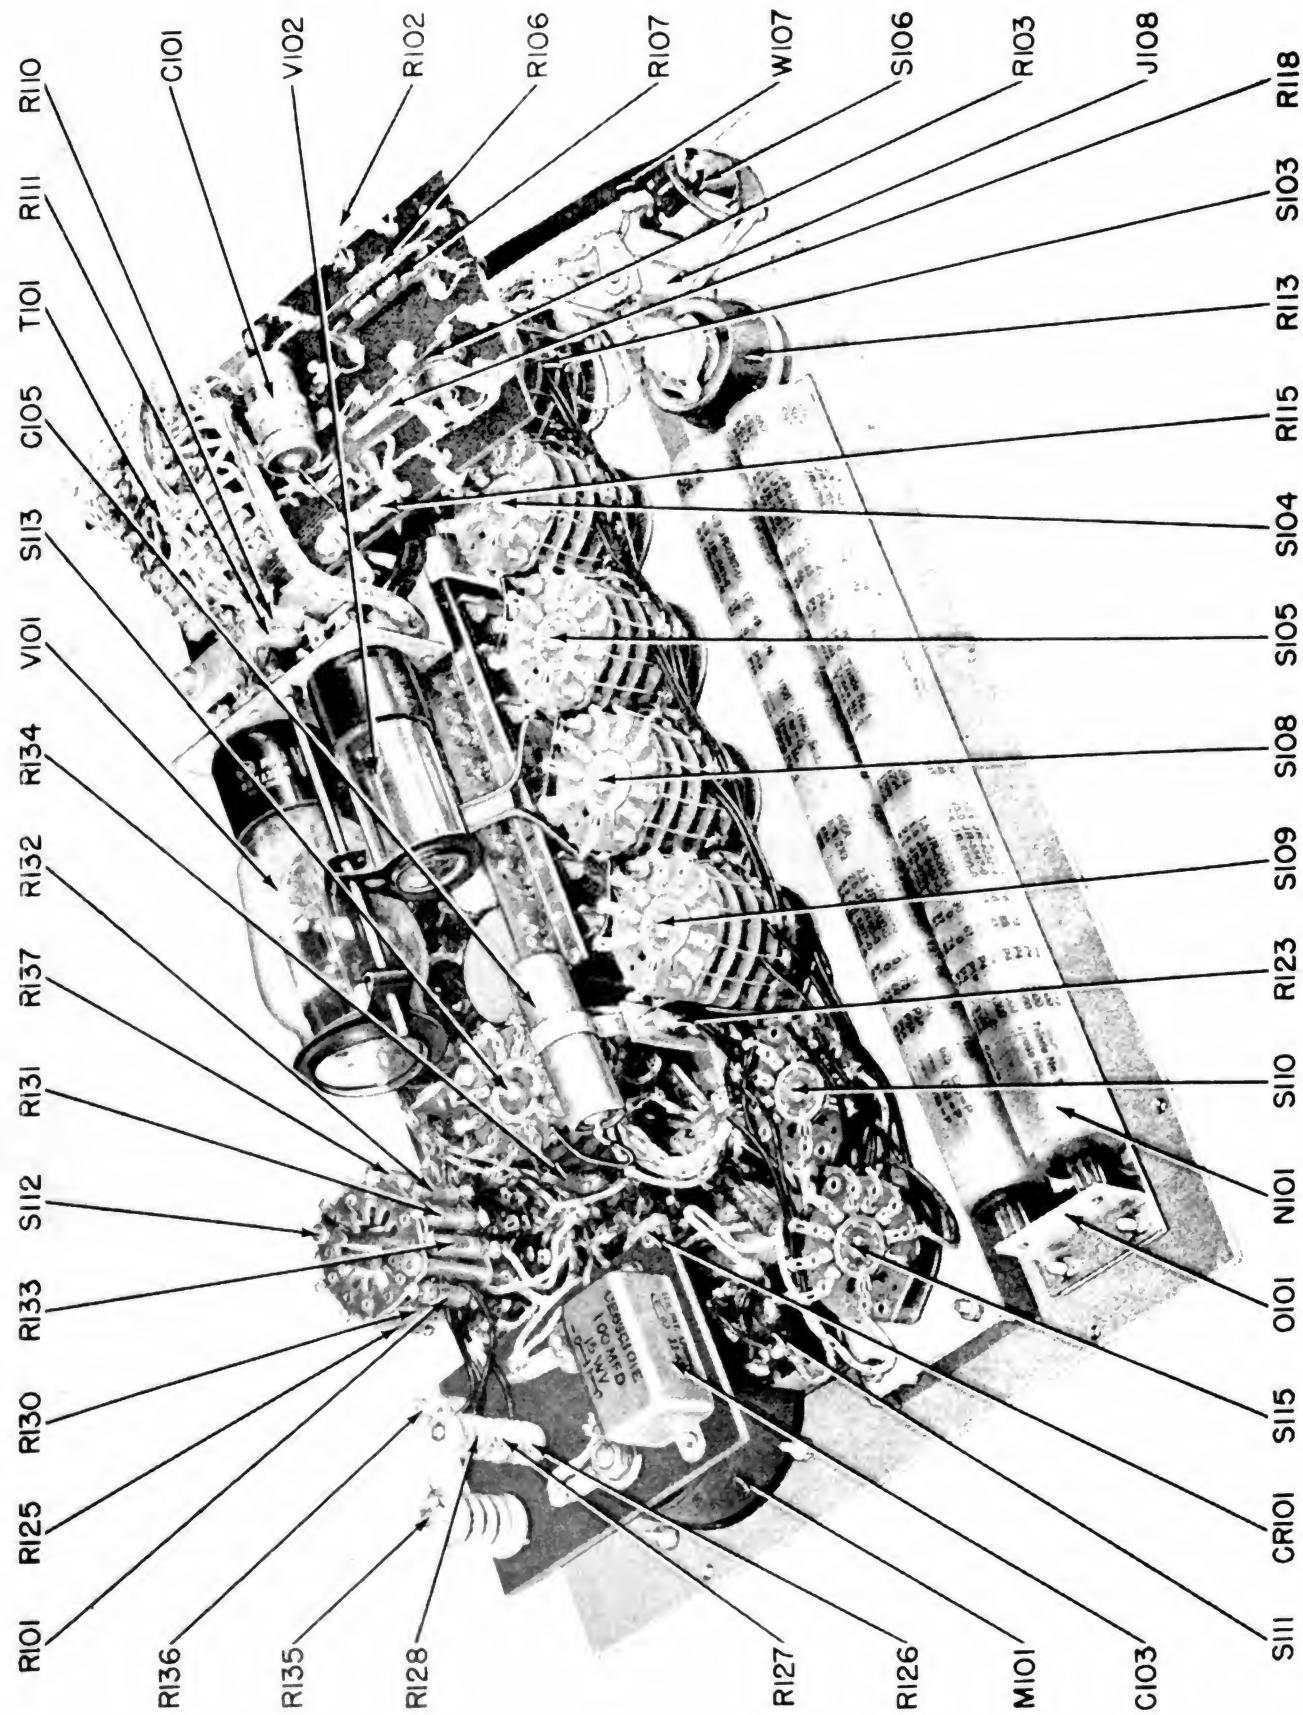
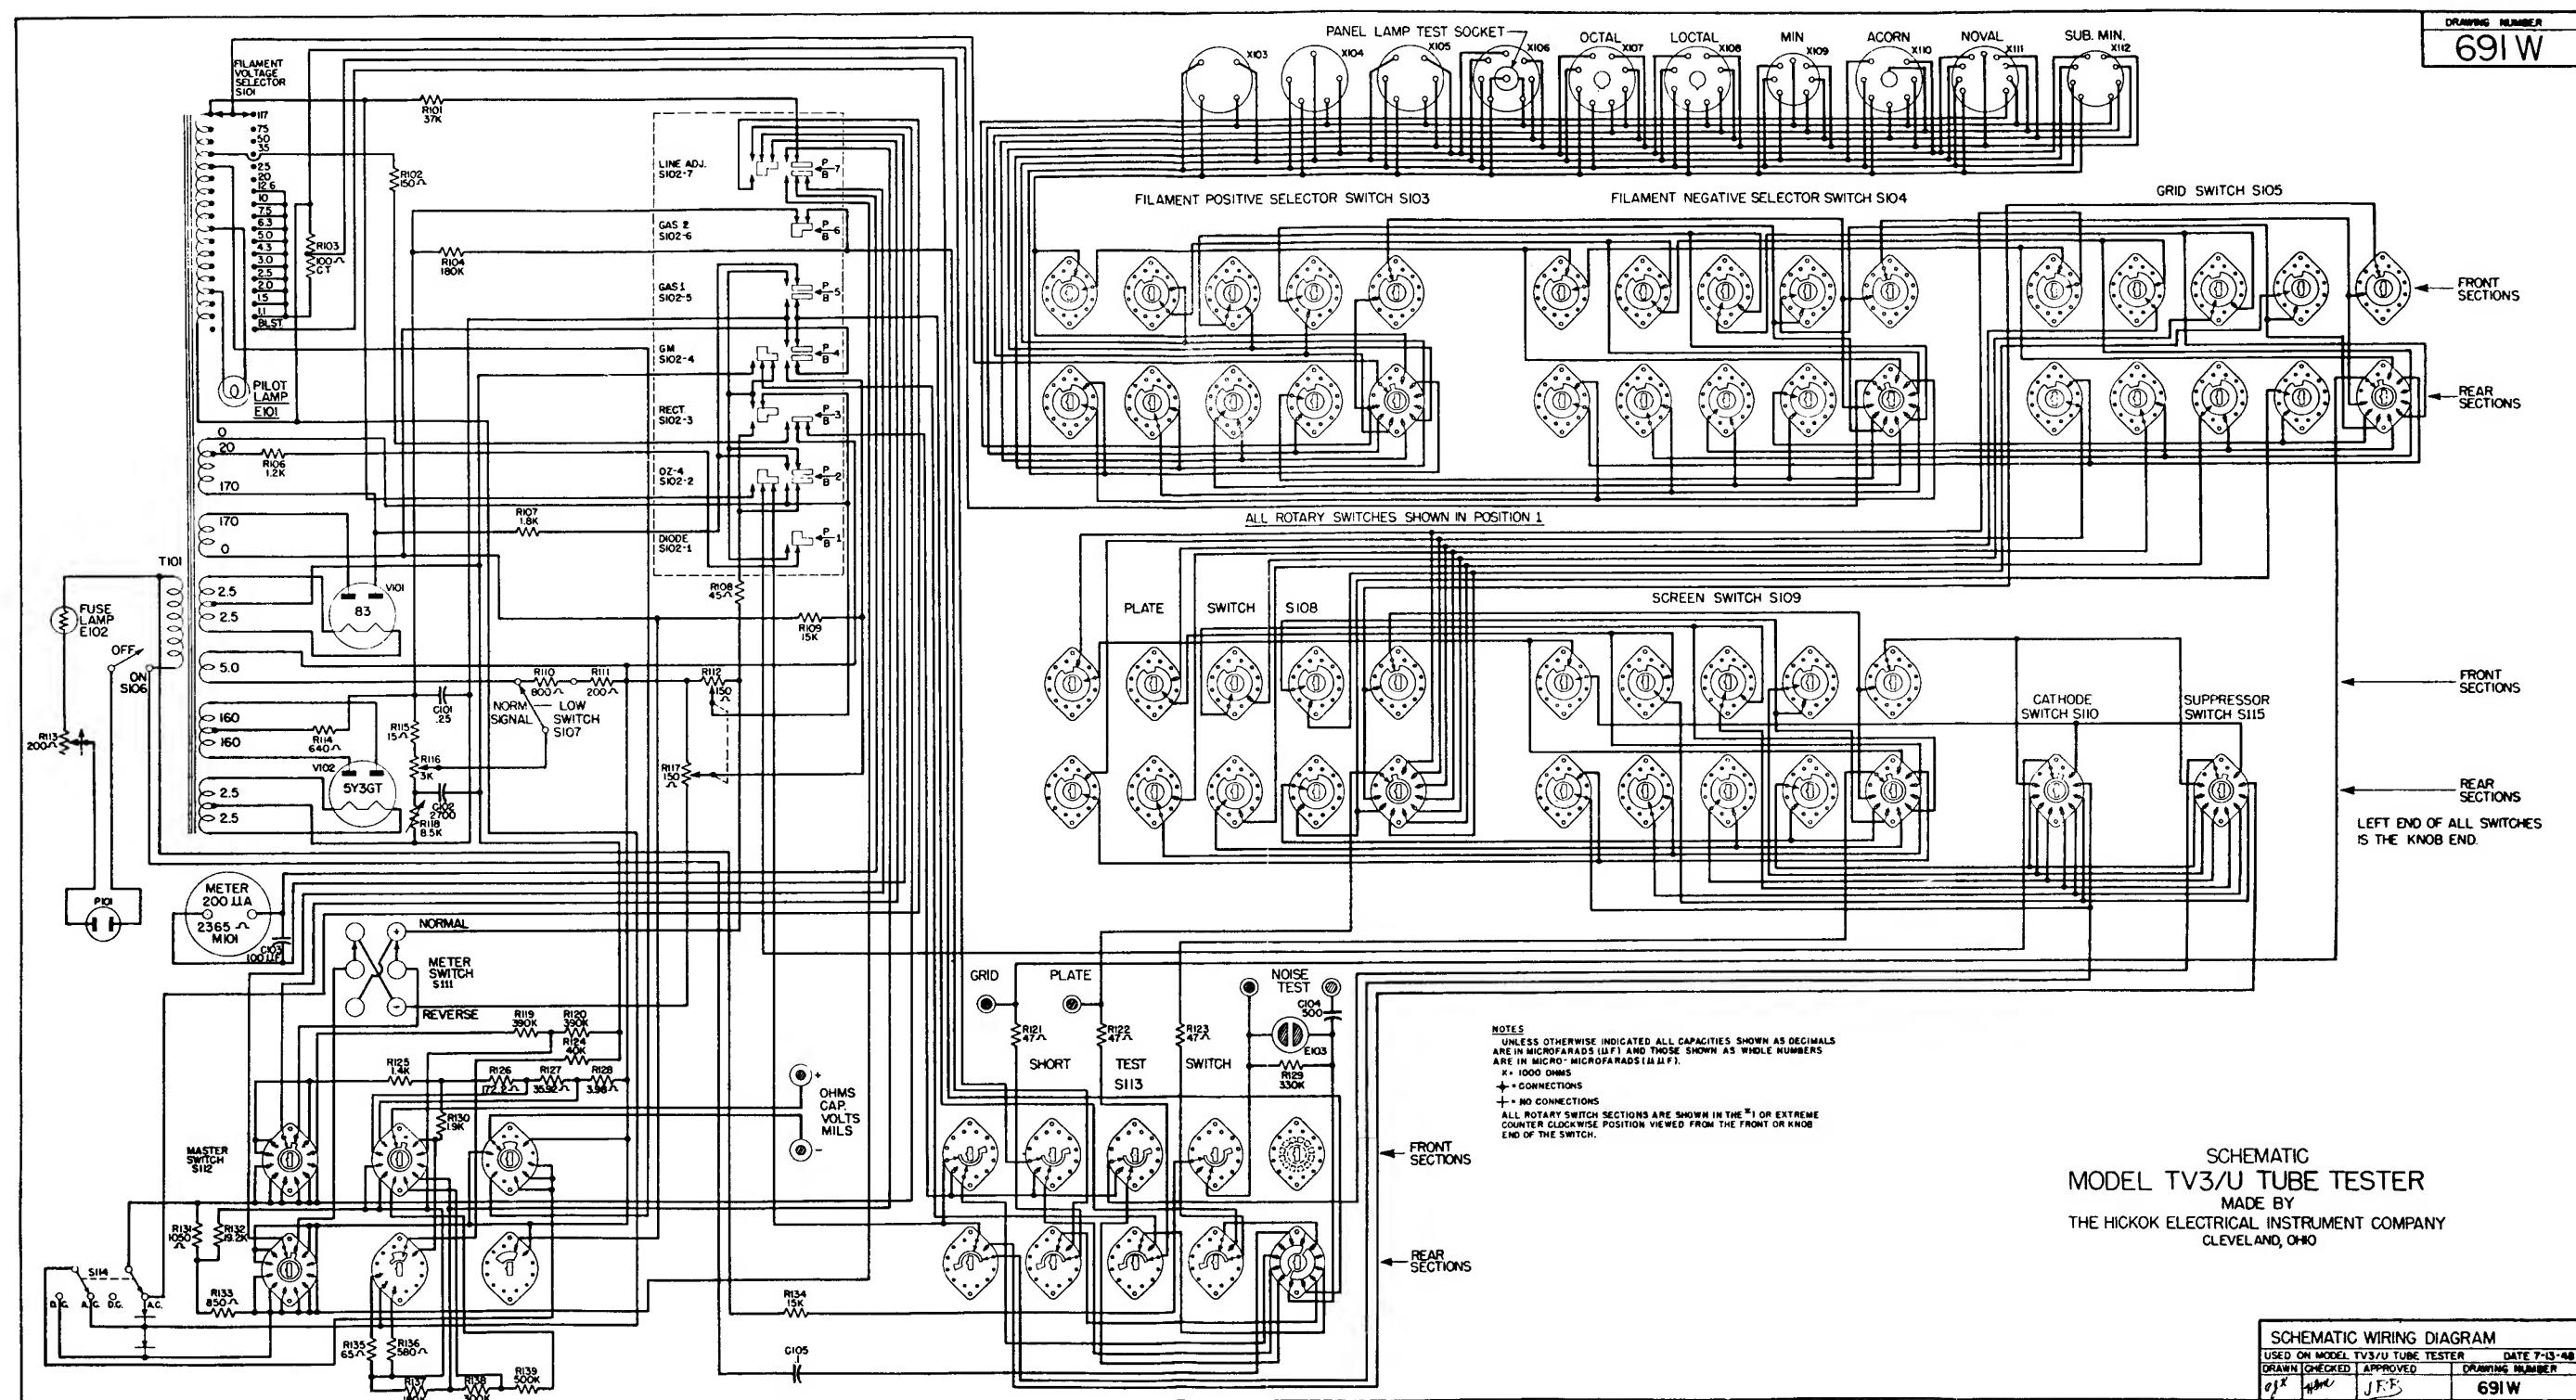

Figure 7-2. Internal View of Tube Tester TV-3/U (Front Left Oblique)
Figure 7-6. Schematic Diagram for Tube Tester TV-3/U
a. Refer to schematic diagram Figure 7-6 and internal views Figure 7-2, 7-3, 7-4, and 7-5 for correct wiring and placement of parts in the TV-3/U.